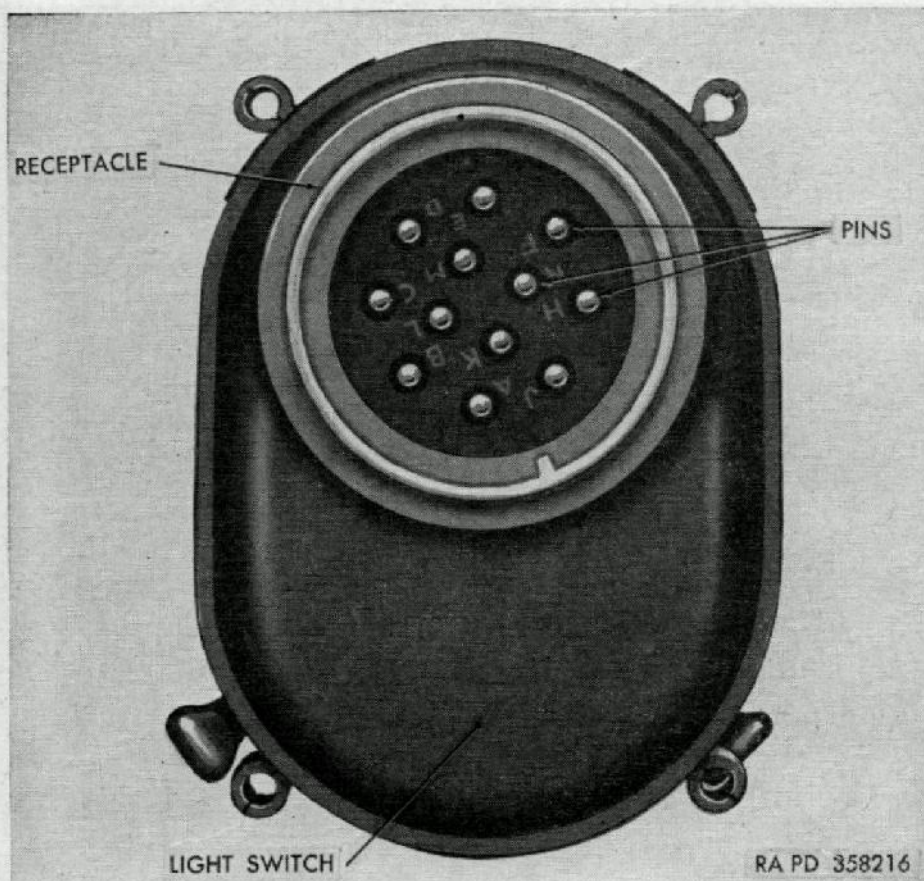

Figure 91. Light switch—rear view.
*b. Removal.* Remove four screws attaching light switch to front of instrument panel and pull light switch away from instrument panel far enough to permit disconnection of electrical connections and disconnect cable plug from receptacle (fig. 91), using wrench 41-W-3249-900 (fig. 70).
*c. Installation.* Connect cable plug to receptacle (fig. 91) on back of light switch and tighten with wrench 41-W-3249-900 (fig. 70). Position light switch on instrument panel and secure with four screws.